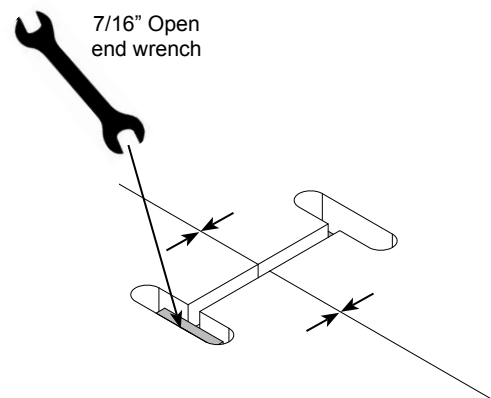

Figure 4D
5. Tighten all draw bolts evenly with a 7/16" open end wrench. **Figure 4D**. Each bolt should be tightened equally until the assembly is snug. Do not overtighten bolts.